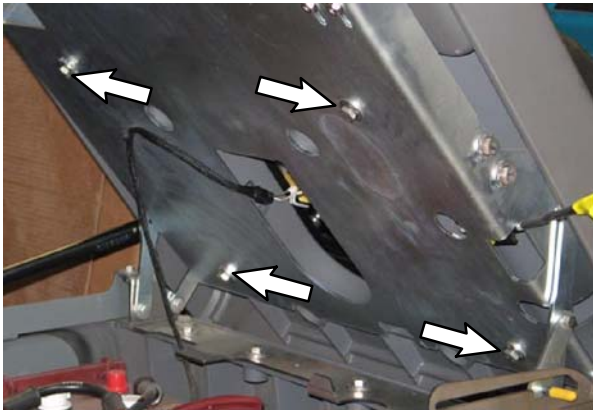

FIG. 2
2. Remove the four M8 hex screws securing the operator seat shroud to the seat channel. Set the M8 hex screws aside. (Fig. 2)